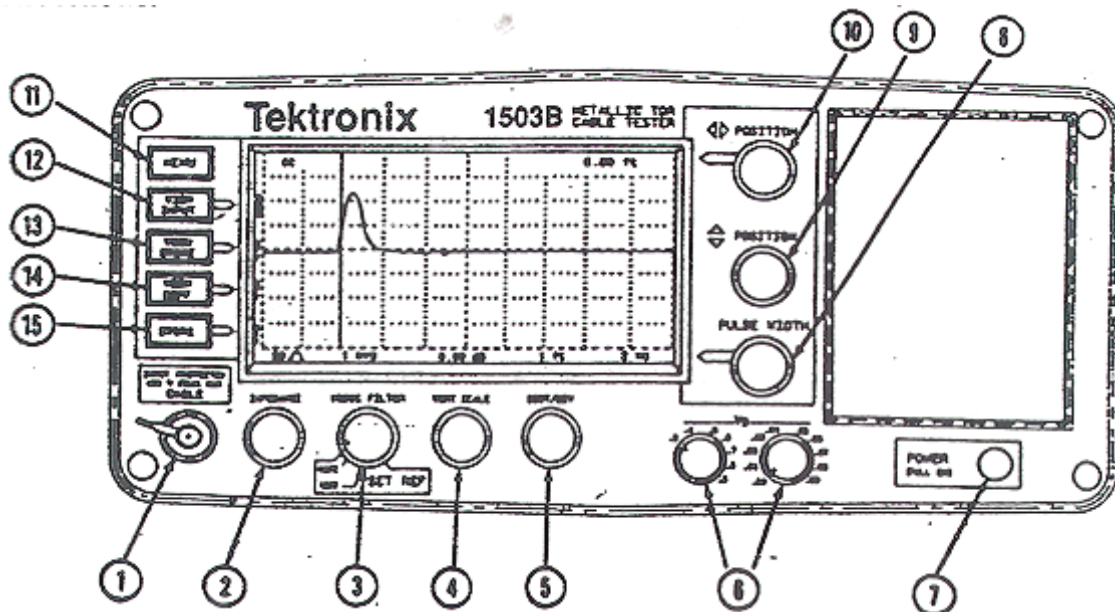

Fig.25-1 TDR Controls
Refer to Figure 25-1 for an illustration of the front panel controls. In this illustration, each control is numbered and the numbers are used to identify each control in the procedure that follows.
1. Turn power on (7). When you see a horizontal trace and division marks on the screen, the TDR is ready to use.
2. Set Impedance (2) to 93 ohms.
3. Set Noise Filter (3) to 1 AVG.
4. Set Vertical Scale (4) to 0.00dB
5. Set DIST/DIV (5) to 100 ft.
6. Set V_p (6) to .99.
7. Set Pulse Width (8) to 100 nS.
8. Center the trace using the vertical POSITION control (9).
9. Connect the test cable (terminated with two alligator clips) to the input jack (1).
10. A waveform similar to the one shown in Figure 25-1 should be displayed, however the vertical pulse will be located at the left edge of the screen. This is the transmitted pulse the TDR uses to determine the length of the cable.
11. Rotate the horizontal POSITION control (10) until the vertical line it controls is all the way against the left edge of the screen. At this point, the upper right corner of the display should show either 0.00 ft. or some negative value.
12. Connect the pair to be measured to the test cable using the alligator clips. At this point the pair should not be connected to either the base station or the radio exchange, and should be left open-circuited at the far end. Adjust the DIST/DIV control (5) until the display shows not only the transmitted pulse on the left (as in Figure 25-1) but also the reflected pulse farther to the right. This pulse should have the same polarity (positive) as the transmitted pulse. It may be necessary to adjust the Vertical Scale (4) control and/or the Pulse Width control (8) so that the transmitted and reflected pulses are clearly defined and separated as in Figure 25-2.